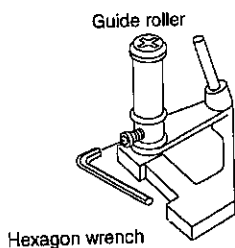

Figure 4-30.
- b) Loosen the setscrew at the lower part of the guide roller, and adjust it with a hexagon wrench (JIGHW0009) so that the guide roller turns smoothly. (Do not overloosen the setscrew, which causes insecurity of the guide roller.) (See Figure 4-30.)